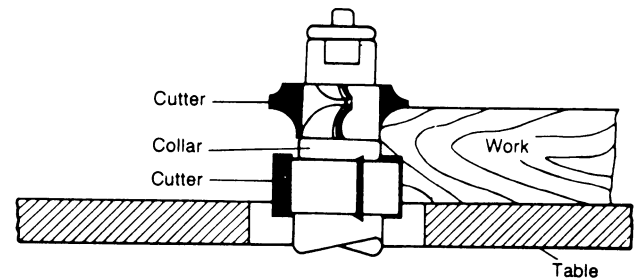

Fig. 16
3. The collar between cutters method, shown in figure 16, has both the advantages and disadvantages of the first two methods. This method is used primarily where both edges of the work are to be shaped.